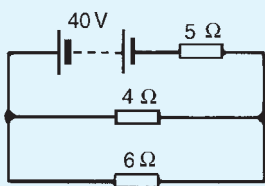

Figure 13.14
4. Use Kirchhoff's laws to find the current flowing in the  $6\ \Omega$  resistor of Fig. 13.14 and the power dissipated in the  $4\ \Omega$  resistor.